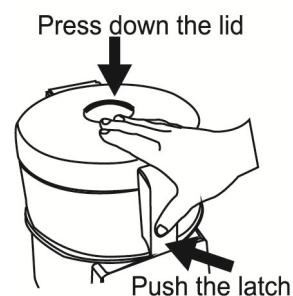

Figure 1
4. Turn the 'Disc cover nut' clockwise to screw down the 'Disc cover'. And make sure it is screwed down. Then close the 'Lid'. Please see the figure 1 to know how to close the lid.